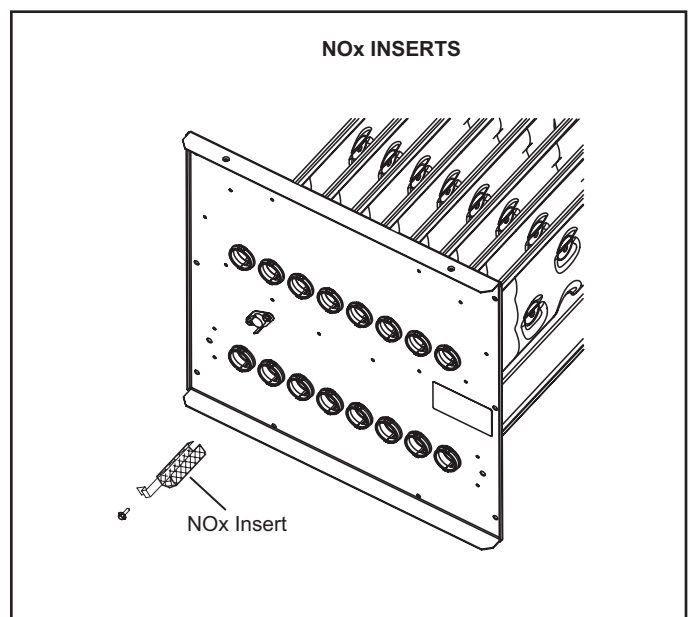

FIGURE 24
- 8 - **NOX units only** - Remove screw securing NOX insert. Remove NOX insert. See FIGURE 24.